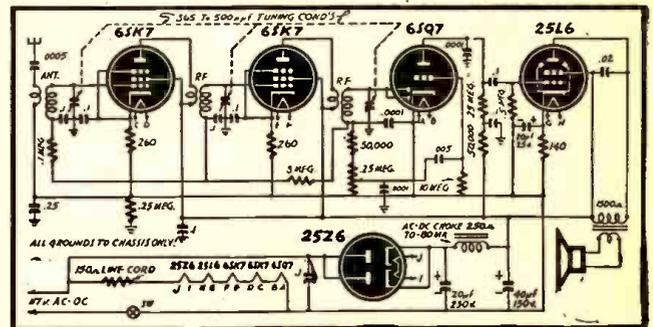

Fig. 3—T. R. F. receiver with two radio-frequency stages.
**A.** This diagram has been designed to meet your needs as specified. Any standard tuning condenser may be used. For single-dial control all sections should be alike. Antenna and R.F. coils may be standard or plug-in type. See Fig. 3.
wire down to the top of the cabinets, then attaching a small round piece of wood to the other end of the wire for my finger to rest on (See Fig. 3). This was attached by means of a small screw, the head of which acted as one of the contact points. The other contact point consisted of another wood screw immediately below the first, screwed into the top of the cabinet where the other connection was made. There was enough spring in the wire to hold the contacts apart unless my finger was resting upon it.